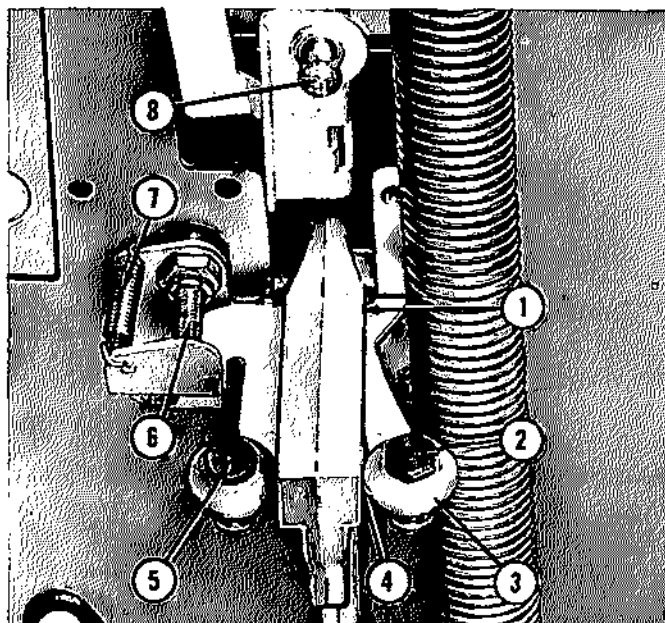
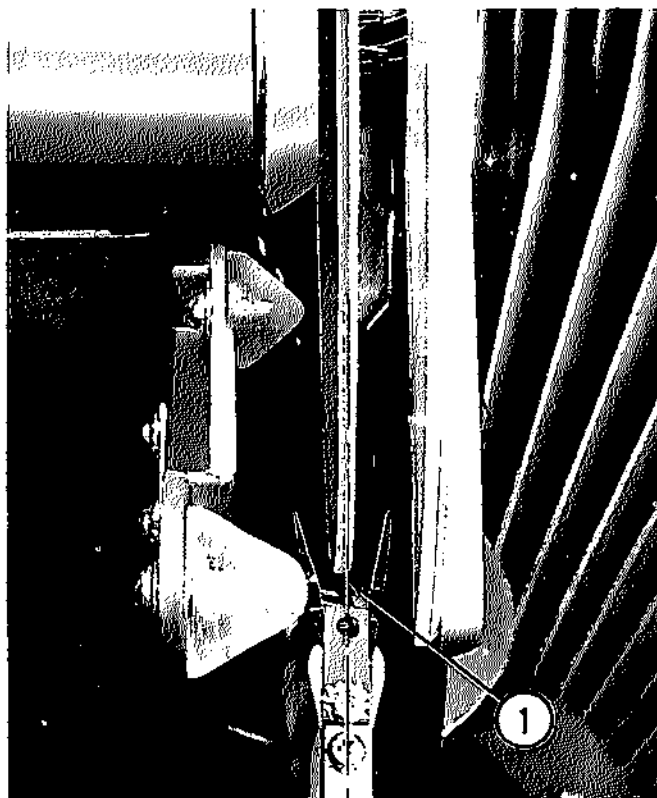

FIG. 39. LIFT ARM ADJUSTMENT - 2600
FIG. 40. RECORD LIFT ARM CENTERING
The record lift arm height adjustment may be made by stopping the mechanism in play position with a normal size record (6-7/8" diameter) clamped on the turntable. Back out the Adjusting Screw (Fig. 39, Item 8) until the record lift arm drags on the edge of the record. Make a scribe mark on the head and turn the screw in two full turns. The clearance between the edge of the record and the end of the lift arm should be 3/64". Both lift arms should be checked.
(1) The record lift arms on the 200 selection mechanism differ from those on the 100 selection mechanism in that they are free of the guide rollers until the arms are nearly at maximum height, at which time the Ramp (Fig. 39, Item 1) on the lower end of the lift arm contacts the Rollers (Item 3) on the spring loaded bracket mounted on the underside of the chassis mounting plate. The ramp should enter and leave the rollers freely with a minimum clearance of .005" between the Rollers and Ramp as indicated at Item 4. This dimension may be adjusted, while the lift arm is in the raised position, by loosening the screw in the hex head Eccentric Stud (Item 2) and turning the stud for the correct clearance. Tighten the screw and manually lower and raise the lift arm to check for freedom of action.
(2) Install a perfectly flat record in the record carrier and select either side. When in play position the record lift arm should center with the record as shown in Figure 40, Item 1. Should adjustment be required the Screw (Fig. 39, Item 6), which is accessible from the top side of the chassis shelf, may be set to center the lift arm with the record. Both lift arms should be checked for centering.
(3) The 100 selection record changer lift arms are in contact with their guide rollers at all times. The above alignment has been factory set by forming and should need no adjustment.